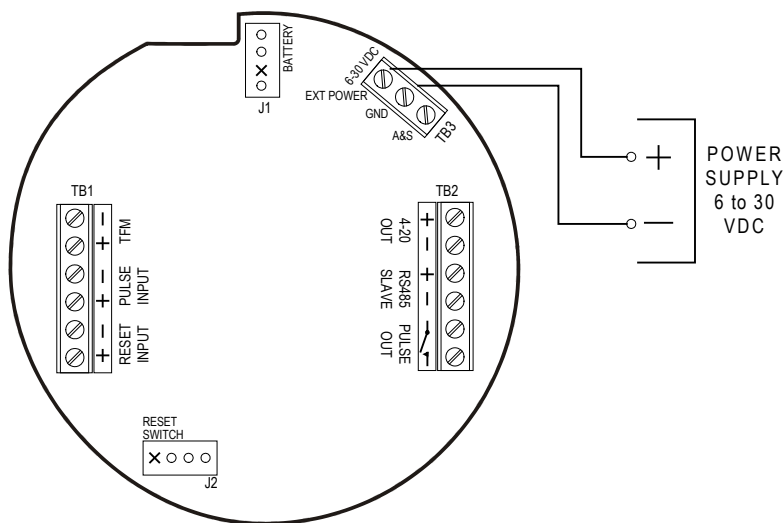

Figure 2.4—External power supply wiring
5. Connect wiring for external power, if appropriate. See Figure 2.4, page 14.
The MC-III EXP can be connected to a remote power supply by a two-conductor cable (Figure 2.4). The power supply and cable must be capable of supplying 6 to 30 VDC @ 10 mA. This capability is available only if the 4-20 mA rate output is not used.